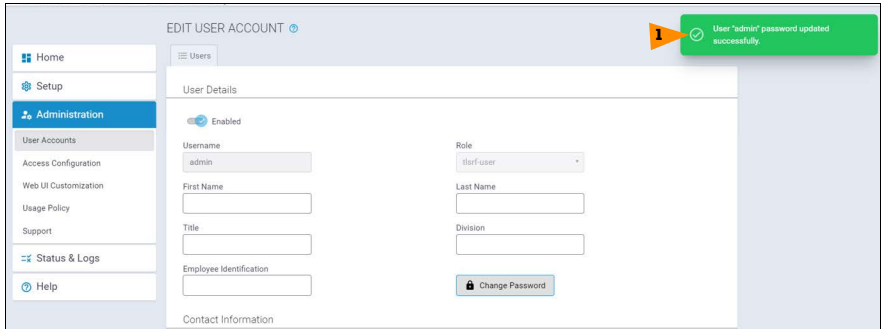

Figure 11. Password Updated Successfully Notification
7. Observe the notification that the password was updated successfully (item 1, Figure 11). The notification can be selected to hide it.